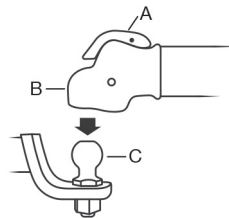
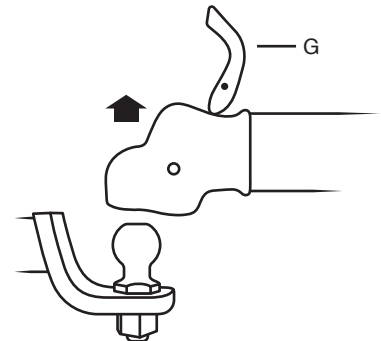

Figure 5
Figure 13
Check that coupler release-lever (A) is in fully down position. Lower the coupler (B) onto the hitch-ball (C) as shown. (Figure 5) The coupler should snap onto the hitch-ball securely.
Raise the coupler release-lever (G) to a vertical position. (Figure 13) If release-lever will not raise with normal hand effort; push rearward on the trailer, or drive forward slightly, until release-lever will raise by normal effort. Next, lift the coupler completely off the hitch-ball, then carefully lower the trailer tongue to the ground. Lower the release-lever to fully down position when finished. (See Figure 5)